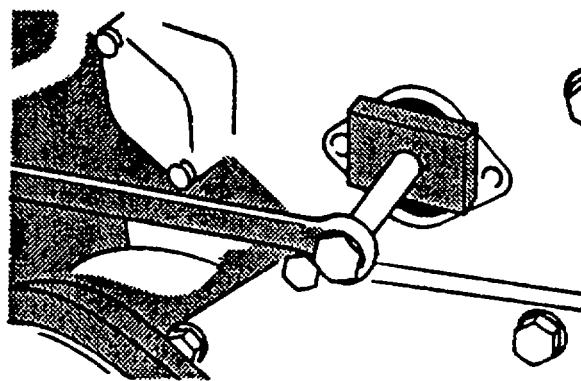

FIGURE 3-63. Separating Gear and Shaft
- (1). Attach gear puller (JDG670) to injection pump gear and push pump from gear, refer to FIGURE 3-63.
- (2). Remove nut and washer securing fuel injection pump drive gear to shaft.
- (3). Install injection pump drive gear puller (JDG670) to injection pump gear and shaft. Follow mounting instructions provided with tool set, refer to FIGURE 3-63.